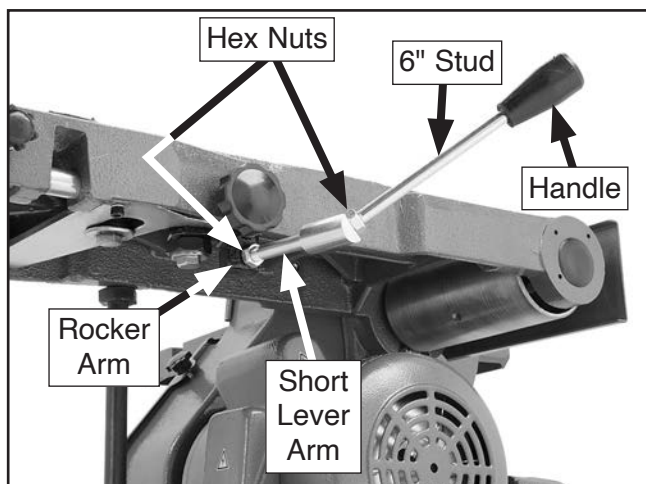

Figure 39. Quick release lever installed.
34. Assemble the quick release lever, as shown in **Figure 39**, using the handle, 6" quick release lever stud, short lever arm, and (2) $\frac{3}{8}$ "-16 hex nuts.
35. Thread the assembly from **Step 34** into the rocker arm, then tighten the hex nuts (see **Figure 39**).